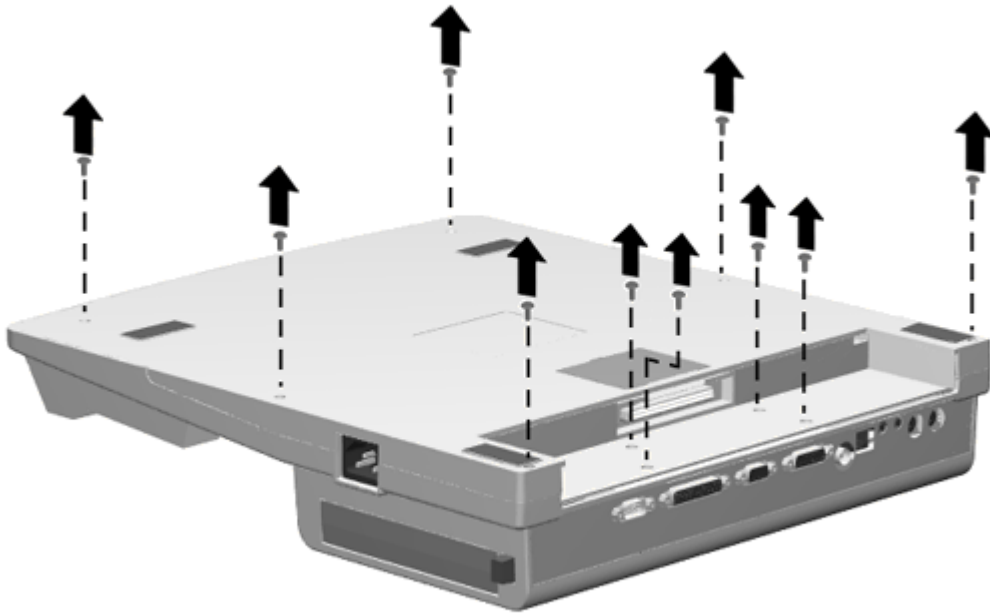

Figure 6-9. Removing the Bottom Cover Screws
2. Place the expansion base face down on the work surface and remove the ten screws that secure the bottom cover to the expansion base (Figure 6-9).